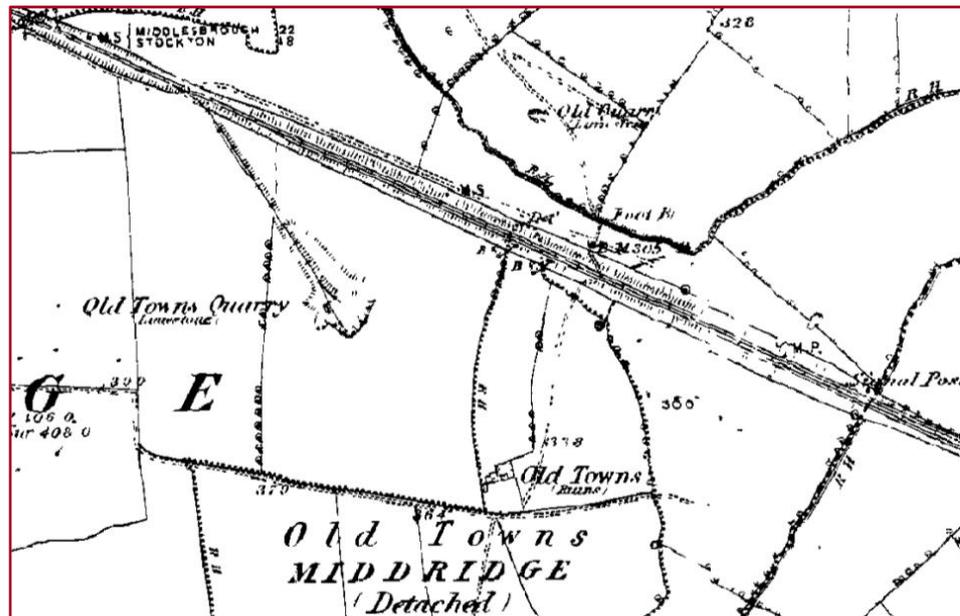

Figure 5. OS 1st ed. map dated 1855 showing Old Towns Quarry linked to the railway line by a branch line.
9. After you have passed two fields, you will notice that the ground on both sides of the track consists of grass covered mounds and undulations. These are more disused quarries. To the south (your right) is **Old Town Quarry**, named after the ruins still visible on maps dating to 1855 (see figure 5). You will notice the remains of a retaining wall on the opposite side of the live line – this must be where loading took place from the quarry on to the line.